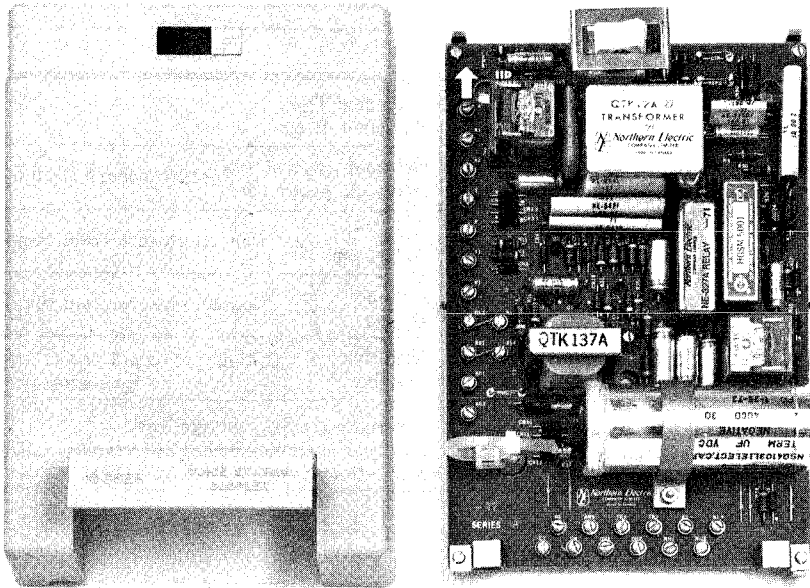

Fig. 2 — QCS2B Voice Station Coupler
2.08 The coupler QCS2B (Fig. 2) is a wall mounted unit measuring 8 inches wide, 9 inches high and 2½ inches deep. The coupler weighs approximately 3 pounds and is enclosed in a plastic moulded box. Two key hole slots at the top and one key hole slot at the bottom are provided on the base for mounting the unit on a wall or other vertical surface.